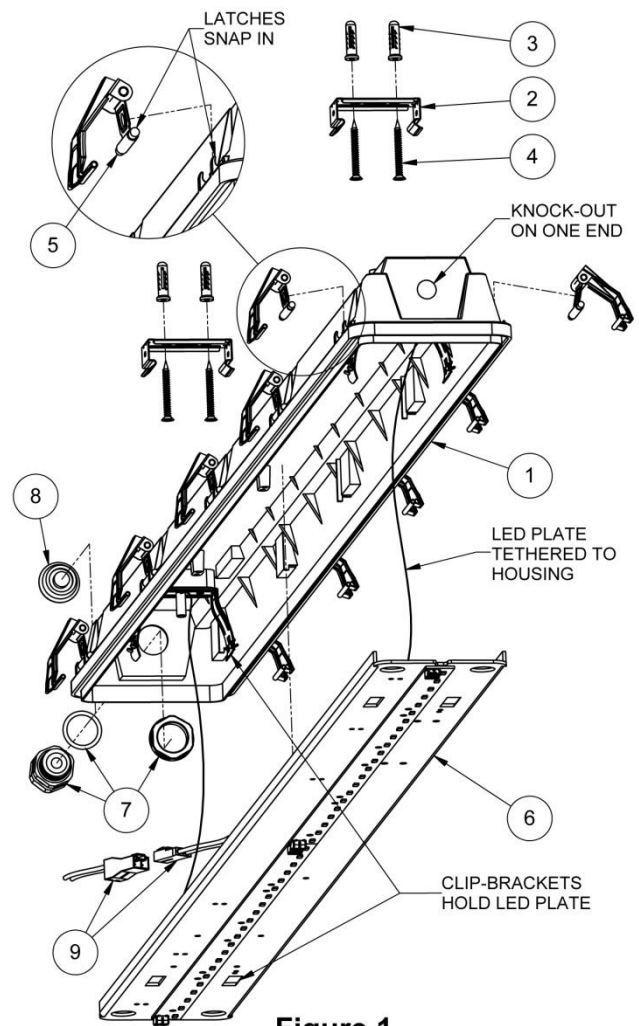
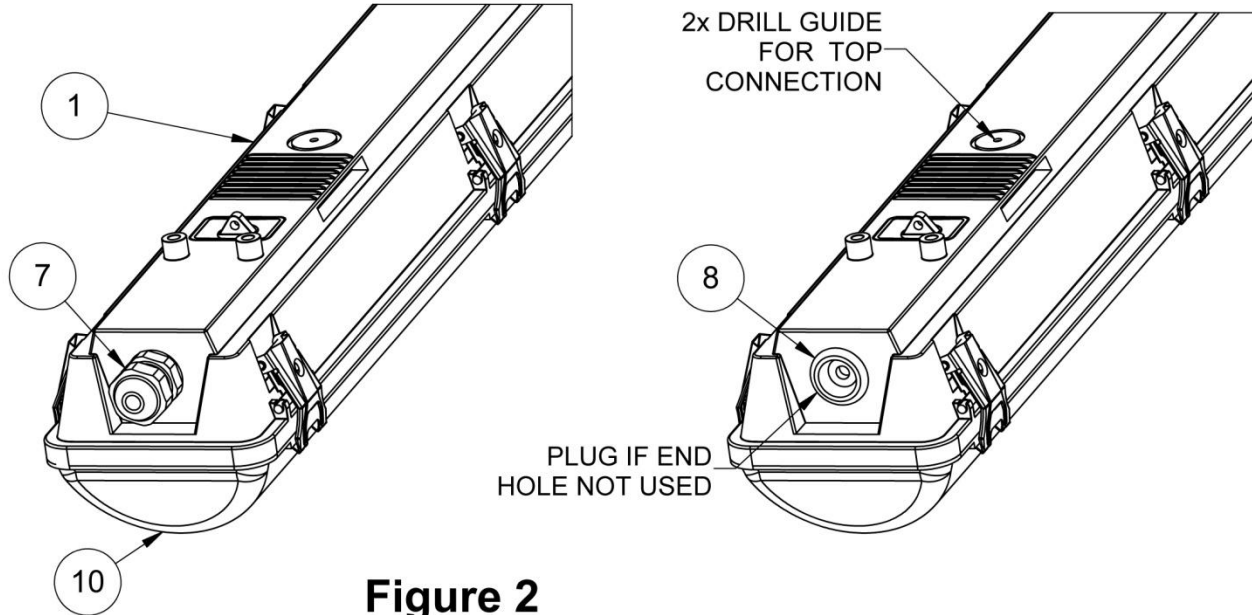

Figure 1
Figure 2
- Release LED plate assembly (6) from clip brackets. LED plate is tethered to housing (1), **Figure 1**.
- Identify location of mounting brackets on fixture relative to power source. Holes are supplied for power connection at end or through the top. Fitting (7) supplied if end location is used, **Figure 1**. If top is used for connection, there are two holes to guide locations for drilling, **Figure 2 & 3**. Plug (8) is supplied for end hole if the connection will be through the top.
- Install latches (5) onto housing (1), 10 places per **Figure 1**.
- Strip off 1/2" insulation to expose bare wires on supply power source black (L) and white (N).
- Insert the supply power source black (L) wire into a #1 position on the supply power connector (9) per **Figure 1**.
- Insert the supply power source white (N) wire into a #2 position on the supply power connector.